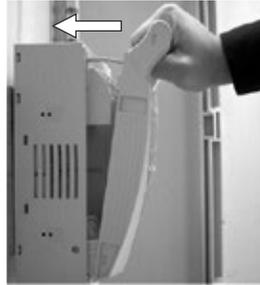

Figure 2
- Take the handle and close the cover up to firm resistance (Figure 2);